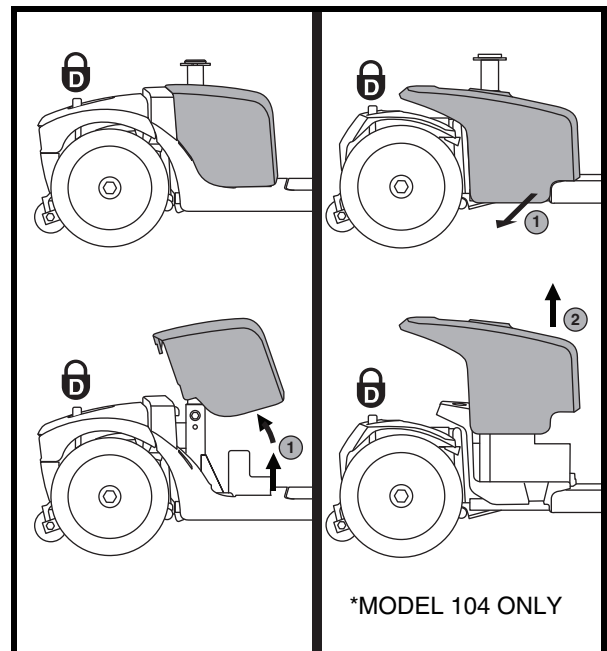

Figure 9. Battery Shroud Removal/Installation
1. Remove the seat and battery shroud. See figure 9.